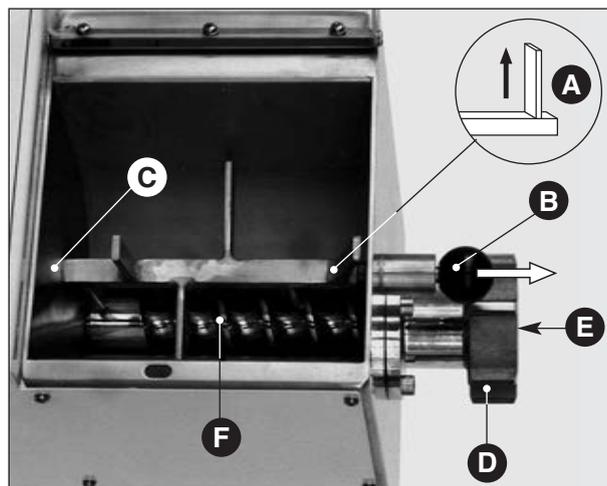

Fig. 13
- Mixer: make sure the external shovel is in the upper vertical position (**Fig. 13 A**) (only this position allows the disassembling of the piece).
For model TR 70: remove the mixer, pull out the knob (**Fig. 13 B**) until the mixer disengages;
for model TR 75/E: remove the mixer by unscrewing the external mobile support until the mixer disengages (**Fig. 13 bis A**).
Take the square shaft away from its place (**Fig. 13 C**) and at the same time turn the external end upwards. If you want to assemble the piece follow these instructions vice versa. Line the central point of the shaft with the peg of the moving support; then, leave the handle.
- Ring nut: (**Fig. 13 D**) and drawplate (**Fig. 13 E**): unscrew the ring nut by hand, avoiding pieces falling when the ring nut comes out of its place, in order to avoid causing damage both to people or to the pieces themselves.
- Archimedean screw: (**Fig. 13 F**): after disassembling the ring nut and the drawplate, the Archimedean screw can easily be taken off from the machine by pushing its spiral from the internal end.
Fig. 13 bis